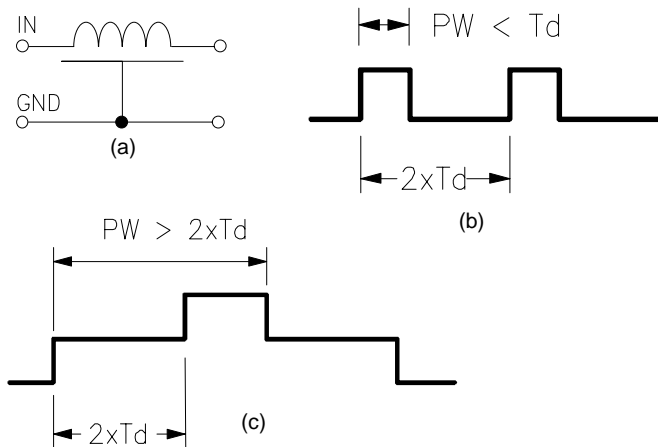

Figure 2A. Output Open circuited (a), and waveforms with reflections at Input for (b) Input Pulse Width < Delay and (c) Input P W > 2 x Delay.
- 2) A reflection, equal in amplitude and of same polarity to the impinging signal, will occur at the input of a line which is open circuited. ($R_L = \text{infinite}$, see fig. 2A)